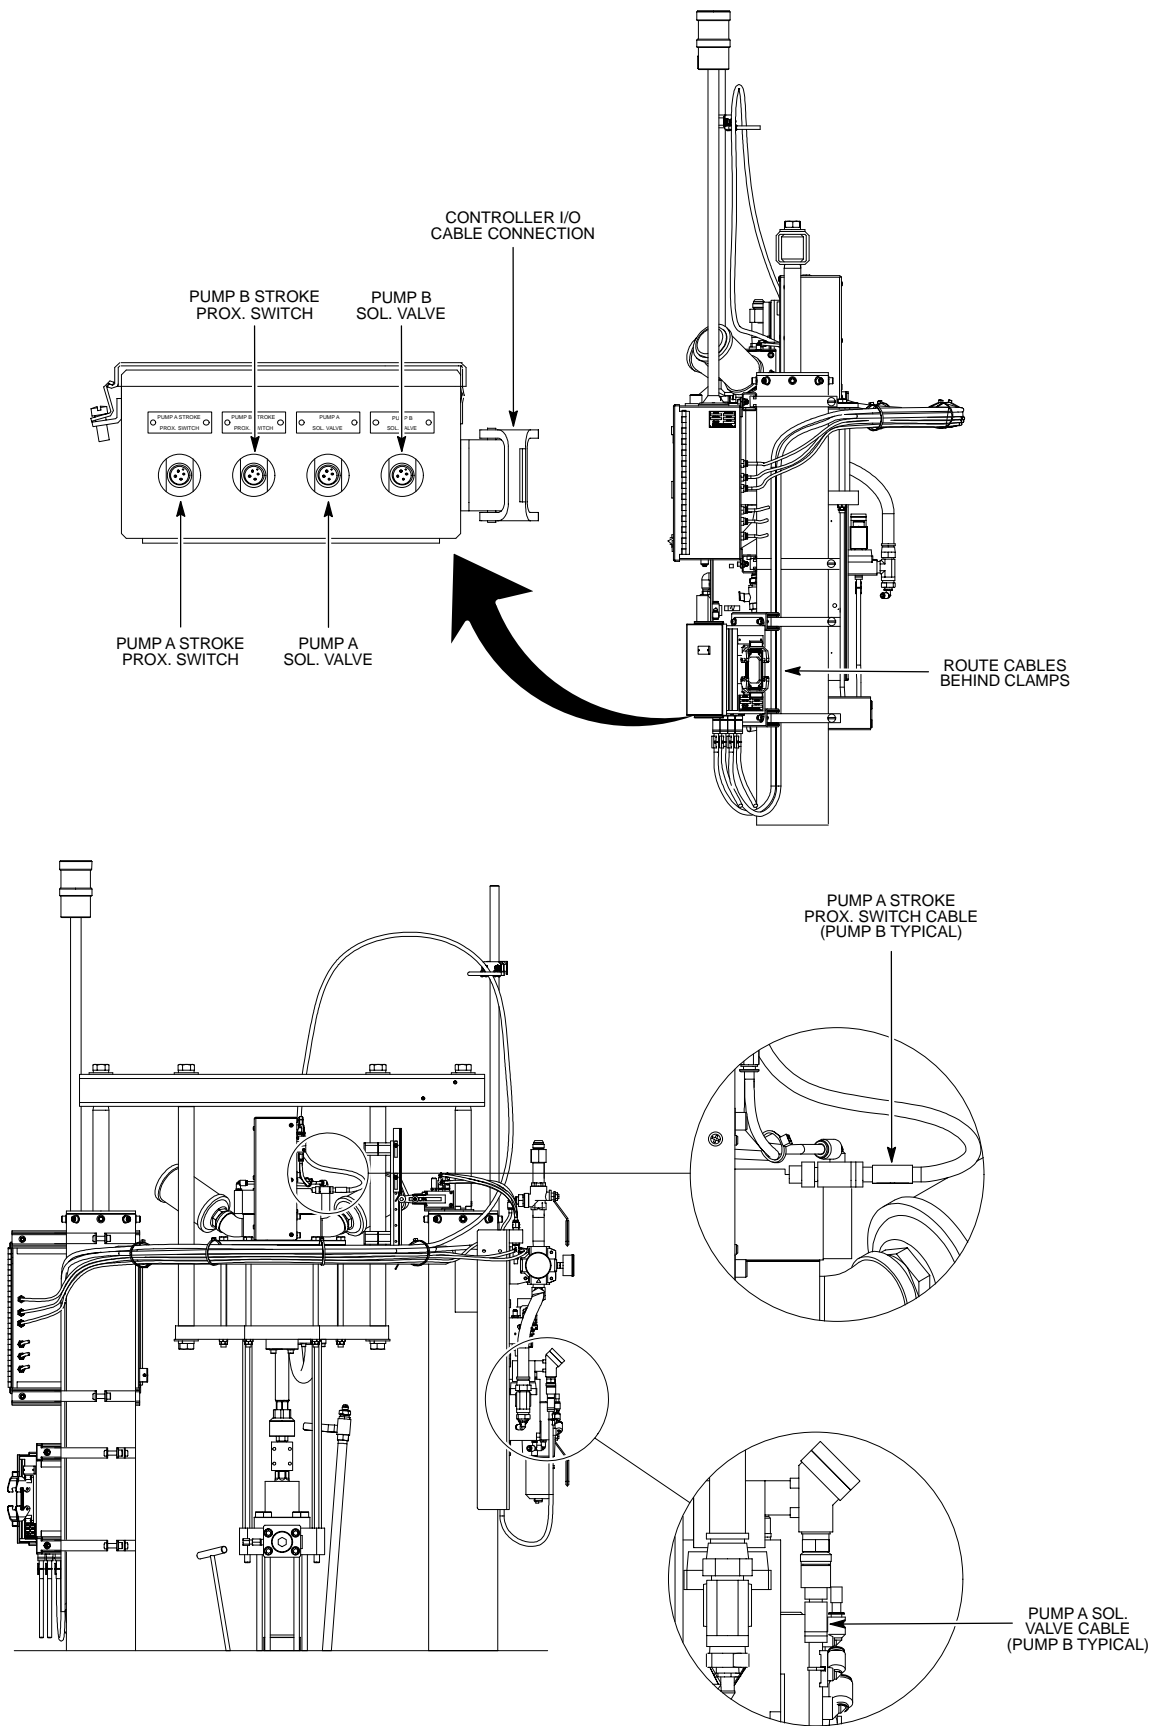

Figure 3 Cable Connections
3. See Figure 3. Connect the Pump A and Pump B cables as shown.